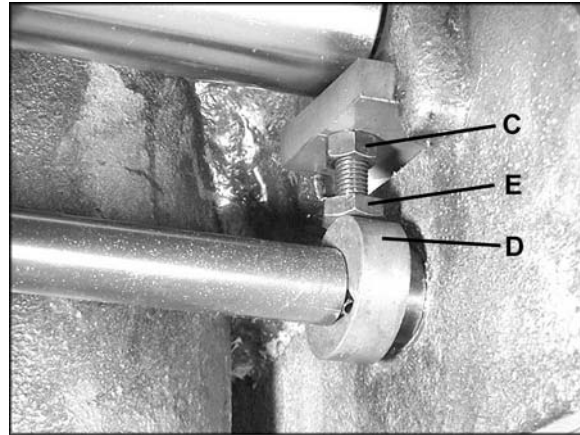

Figure 13
5. If the gauge reading is greater or less than zero, reach beneath the table with a wrench and loosen the hex nut (C, Figure 13) which is above the cam (D, Figure 13) near the end of the roller that needs adjusting. Rotate the hex cap screw (E, Figure 13) until the gauge reads zero.
7. Re-tighten the hex nuts (C, Figure 13) on both ends of the table roller.